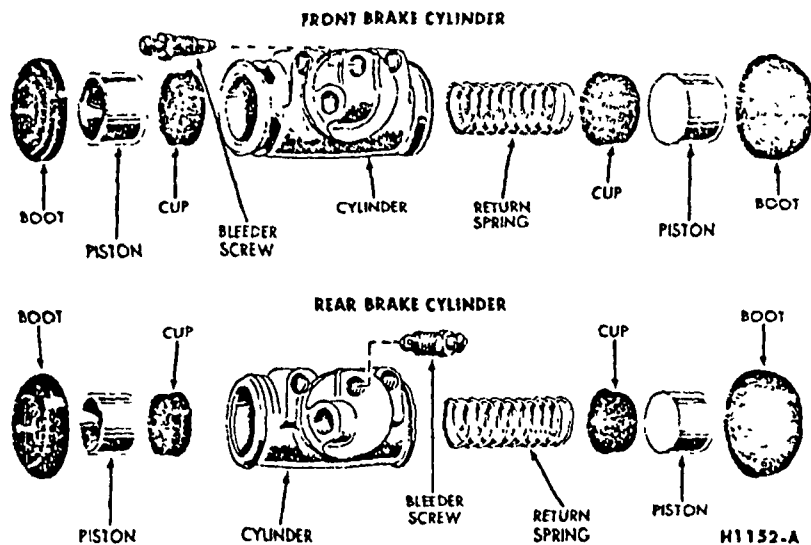

FIG. 10—Front and Rear Brake Cylinders
1. Remove the links and the rubber boots from the ends of the brake cylinder. Remove the pistons, cups, and return spring from the cylinder bore (Fig. 10).
3. Insert the return spring, cups, and pistons into their respective positions in the cylinder bore (Fig. 10). Place a boot over each end of the cylinder.